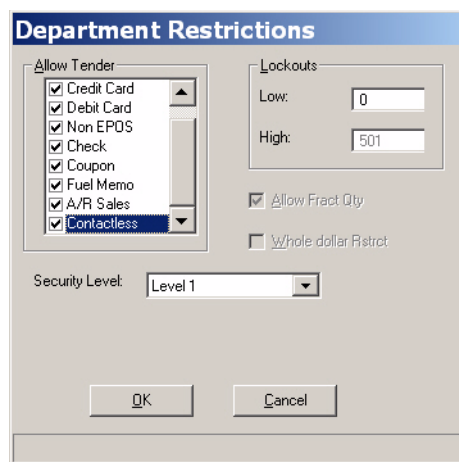

Figure 9-6 Department Restrictions Window
- **Restrictions** - When you select Restrictions, the Fuel Department Restrictions window in Figure 9-6 appears.
- * **Lockouts** - The Lockouts option sets the maximum (High) and minimum (Low) transaction amounts for a department. For example, in Figure 9-6 the maximum value is \$501.00 per transaction and the minimum value is \$0.00. If the minimum value is set to \$0.00, that means that there is no lower limit for transactions in this department.
- * **Security Level** - This option allows you to set the security level required to perform transactions for a fuel department. The security in Figure 9-6 is Level 1. To complete a transaction for the department, an employee must have a security level that gives access to Level 1 transactions.